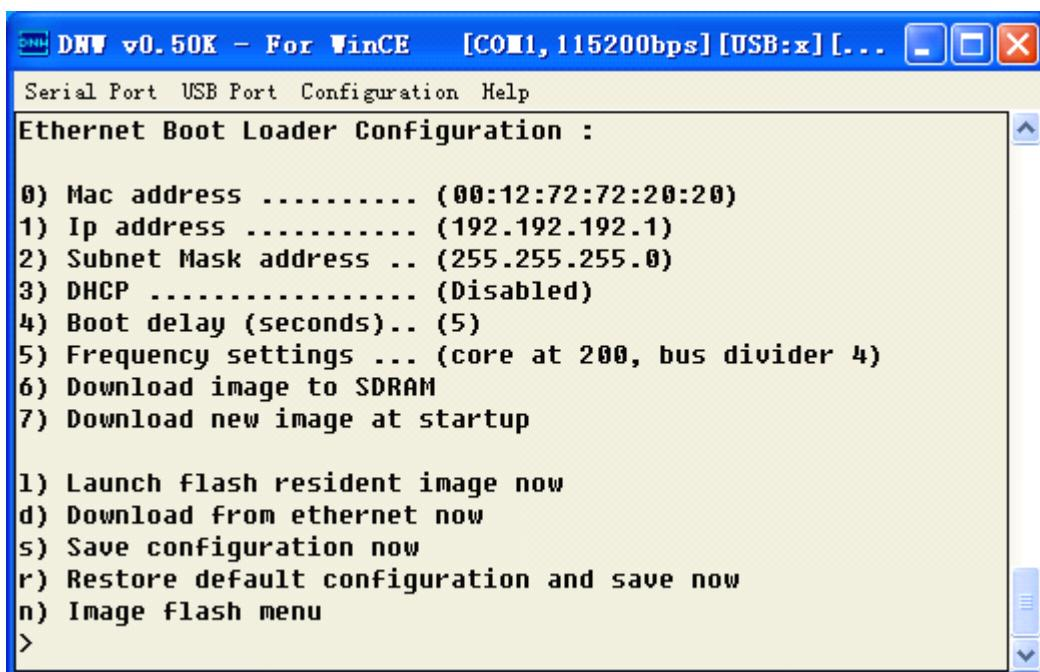

Figure 13.6.4
4. Power on SBC6045 main board, SBC6045 serial port print information display enter countdown stage (the default countdown time is 5S after power-on of SBC6045 main board). Press SPACE key on DNW interface of development workstation, the moment SBC6045 EBOOT serial port output information as shown in Figure13.6.4 will appear: